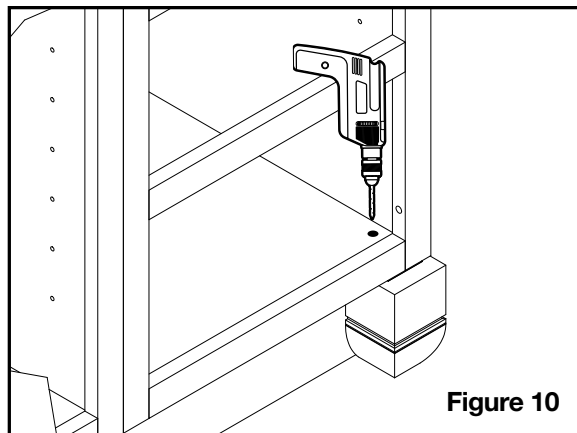

Figure 10
- c) Using #8 x 2 in. wood screw, secure the foot into place (Figure 10).